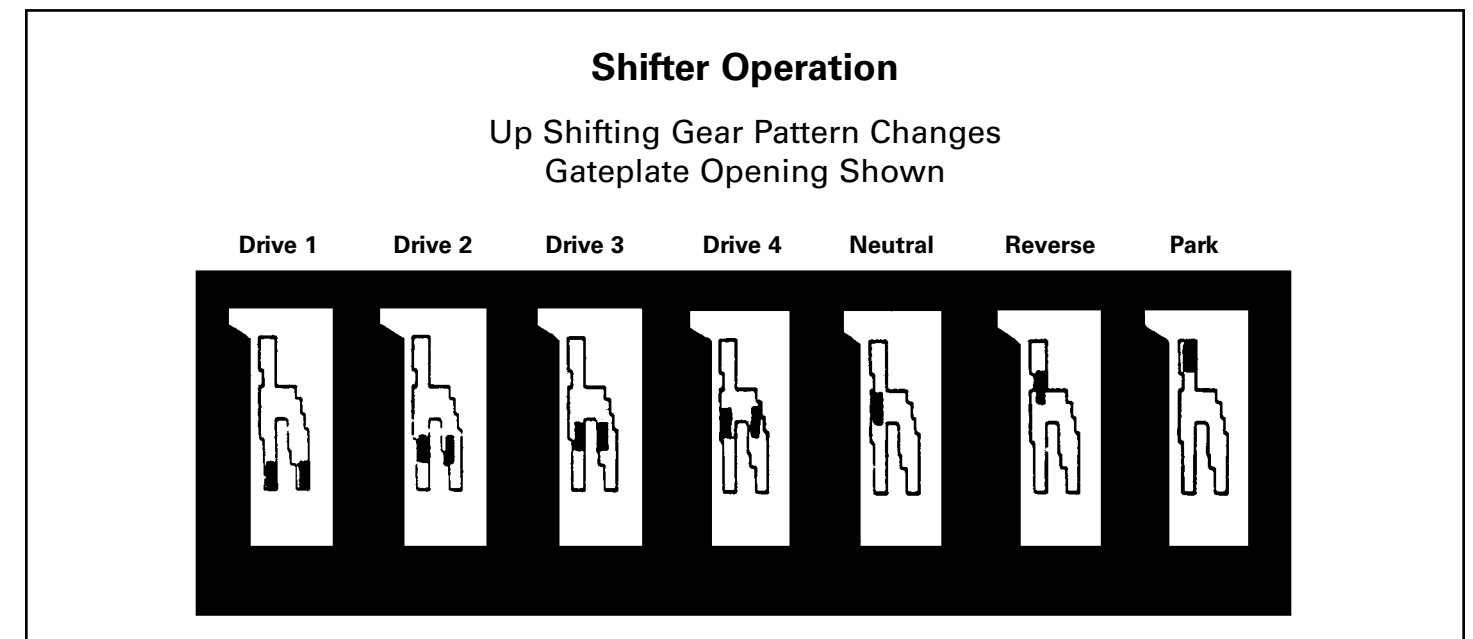

FIGURE 5
- Place shifter stick in NEUTRAL position and remove knob (refer to shifter operation, Figure 5, for correct position of stick).